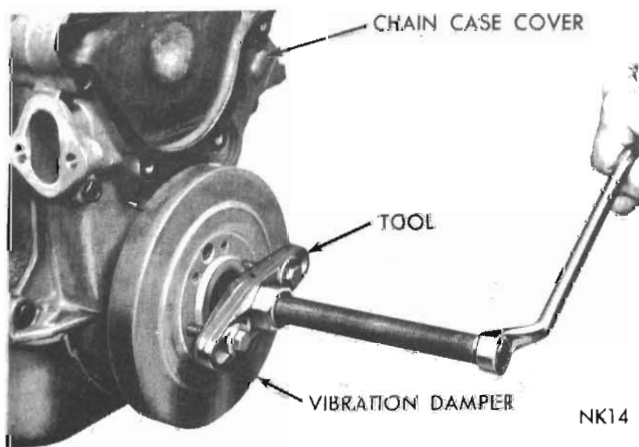

Fig. 14 - Removing vibration damper assembly (Using Tool E9C55B)
(1) Drain cooling system and remove radiator, fan and belt and water pump assembly. Where equipped with air conditioning it may be necessary to move the condenser forward to provide access.
(2) Remove pulley from vibration damper and bolt and washer securing vibration damper on crankshaft.
(3) Install Tool E9C55B and pull vibration damper from end of crankshaft (Fig. 14).
(4) Remove fuel lines and fuel pump.
(5) Loosen oil pan bolts and remove the front bolt at each side.
(6) Remove chain case cover and gasket using extreme caution to avoid damaging oil pan gasket.